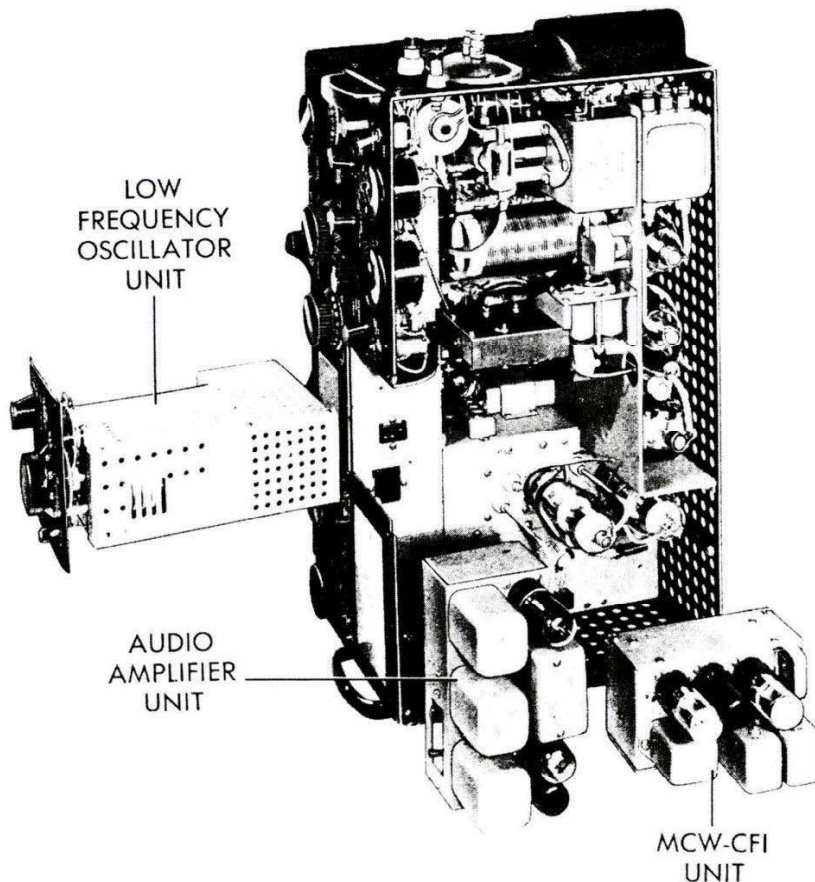

Figure 5-6. Radio Transmitter T-47A ART-13 and Removable Units
(5) DISASSEMBLY OF TRANSMITTER UNIT.—The transmitter unit contains three major assemblies that are equipped with multi-terminal plugs to permit removal without unsoldering any connections. These readily removable assemblies are the VFO Low Frequency Oscillator O-17/ART-13A (or in Model AN/ART-13B only, the CDA-T Crystal-Controlled Oscillator), the Audio Amplifier, and the MCW-CFI Unit. Figures 5-6 and 1-3A show the units removed from the equipment. Wrap-around sections and panels of the